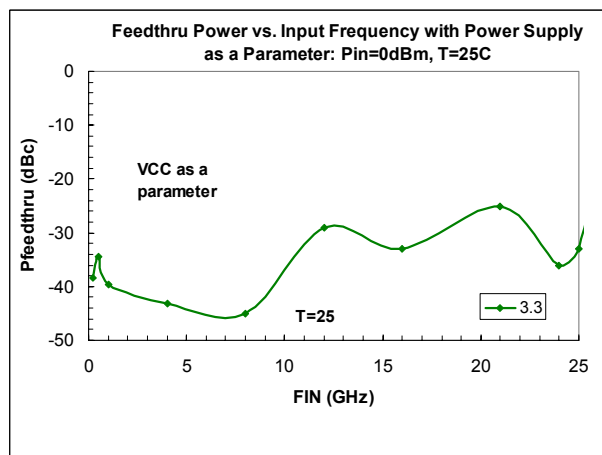

Figure 7. Feedthru power vs. Input Frequency at $V_{cc} = 3.3 \text{ V}$, $P_{in} = 0 \text{ dBm}$ at 25°C
- a. Added Figure 7, Feedthru Power plot.